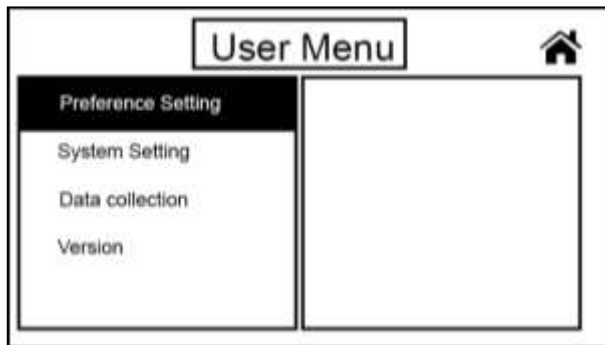
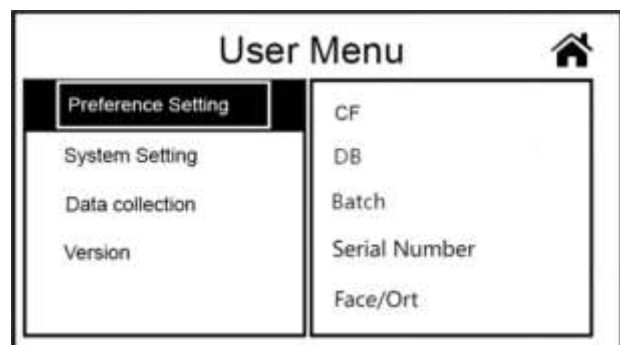

Figure 52
Figure 53
1) Touch the “Menu” key to enter the “User Menu” interface, as shown in Figure 52 below. Then press “Preference Setting” to enter the “Preference Setting” interface, as shown in Figure 53.